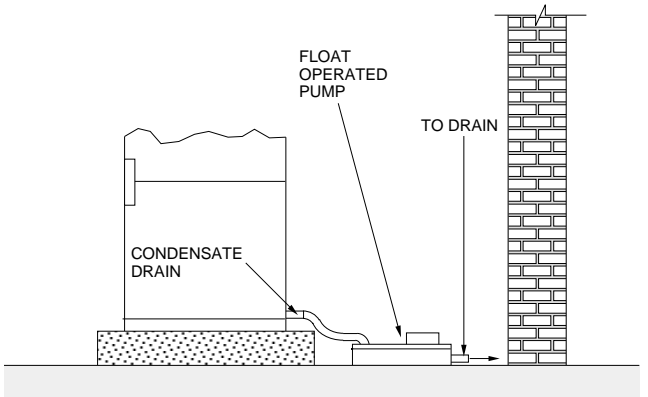

FIGURE 5.1
**Standard Size Condensate Line without a “P” Trap:** A condensate line made from 1/4" ID rubber hose or plastic tubing should be run into a floor drain or to a condensate receiver tank or pump, see Figure 5.1.